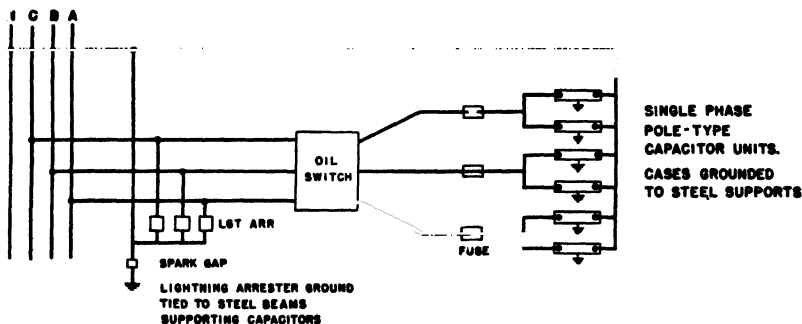

FIG. 1-49. Typical connection diagram of three-phase capacitor bank. (Courtesy Consolidated Gas Electric Light and Power Co.)
**Capacitor Connections.** Figure 1-49 shows the detail connections for connecting a capacitor bank to a three-phase four-wire feeder. On installations greater than 180 kva, an oil switch is necessary. Each